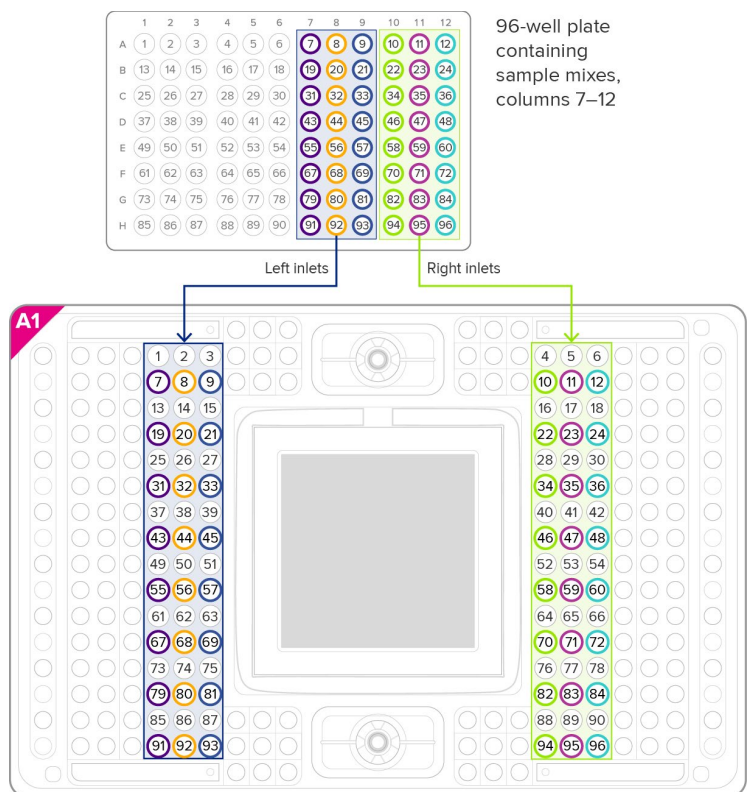

Figure 11. Sample mix pipetting map for sample plate columns 7–12
- 6** Use an 8-channel pipette to transfer the entire volume (16–18  $\mu\text{L}$ ) of each sample mix into the sample inlets, as shown in Figure 11 and Figure 12 on page 25.